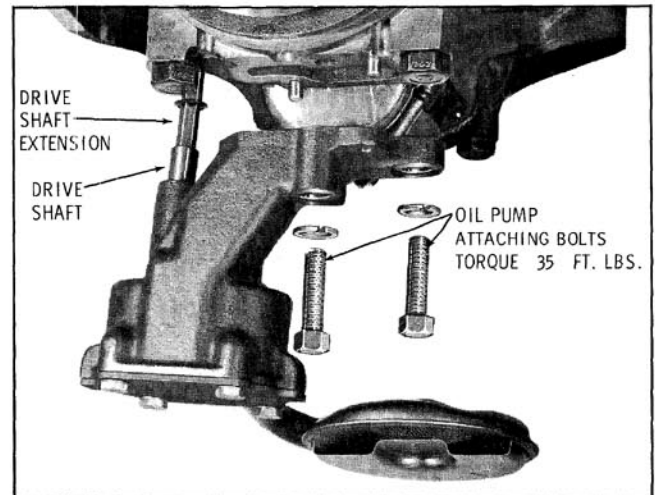

Fig. 3-75 Oil Pump Installation
2. Position pump onto the rear main bearing cap and install attaching bolts. Torque bolts to 35 ft. lbs. (Fig. 3-75)